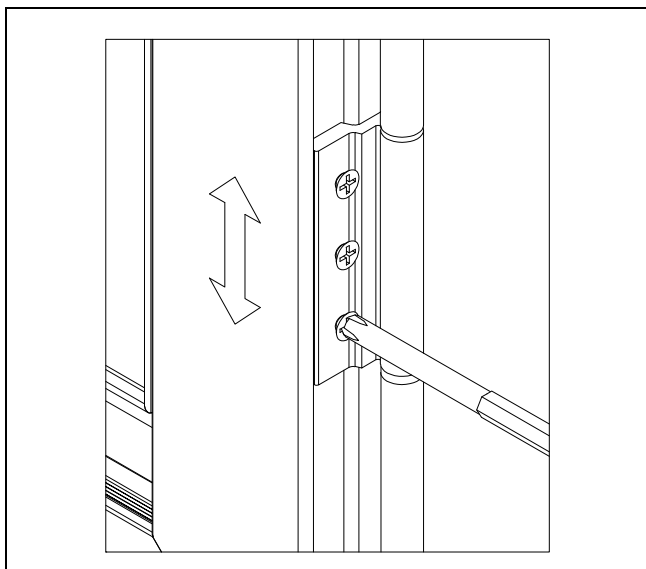

Figure 3
4. The screen panel may be adjusted slightly up or down within the frame. First loosen all of the hinge screws on the screen panel until the panel can be manually raised or lowered. Manually raise or lower the screen to the desired position and while holding in place tighten the hinge screws. See figure 3.